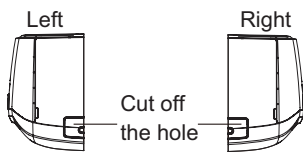

Fig.4
- (2) When selecting leading out the pipe from left or right, please cut off the corresponding hole on the bottom case. (As shown in Fig. 4)